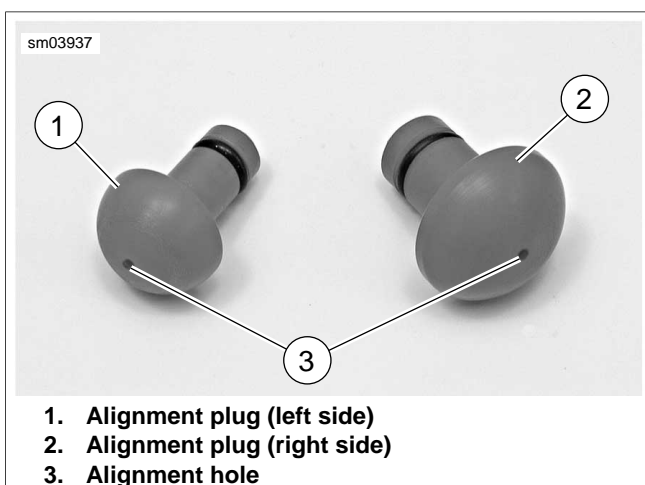

Figure 2-57. Axle Alignment Plugs
4. Obtain AXLE ALIGNMENT PLUG SET (Part No. HD-48856). See Figure 2-57. Insert axle alignment plugs (1, 2) into left and right ends of rear axle.